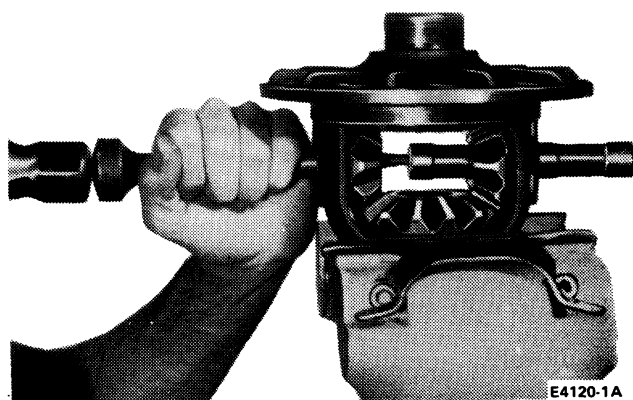

FIG. 26 Removing Mate Shaft
- Remove drive pinion mate shaft with a drift (Fig. 26).